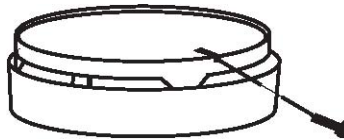

Figure 3: Tamper Resistant Locking Pin
- 6.7 To make your carbon monoxide alarm tamper resistant, a locking pin has been provided in the bag with the screws and anchors. Using this pin will deter children and others from removing the alarm from the mounting plate. To use the pin insert it into the hole in the side of the alarm after the alarm has been installed on the mounting plate (See Figure 3). Note the tamper resist pin will have to be removed in order to change the battery; this can be done easily with a long nose pliers. Using the long nose pliers pull the pin out of the hole, it is now possible to remove the alarm from the mounting plate.
- 8.2. To clean your alarm, remove it from the mounting bracket as outlined in Figure 2 Step D: Installation/Removal. IF TAMPER RESISTANT PIN HAS BEEN USED, REFER TO STEP 6.7 UNDER INSTALLATION INSTRUCTIONS FOR REMOVAL INSTRUCTIONS. (See Figure 3)
NOTE: IF TAMPER RESISTANT PIN HAS BEEN USED, REFER TO STEP 6.7 UNDER INSTALLATION INSTRUCTIONS FOR REMOVAL INSTRUCTIONS. (See Figure 3)